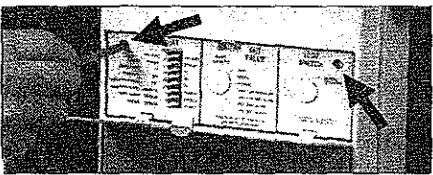

Figure 9
7. Remove the four (4) 6-32x3/8" Phillips pan-head screws as illustrated in Figures 9 and 10 (arrows indicate screw locations). Close the rear panel door.
3. Place the rear enclosure onto the front enclosure, ensuring that the plastic blank insert is held into position as illustrated in Figure 11. Install the rear enclosure by installing the four (4) 6-32x3/8" Phillips pan-head screws (see Figures 9 and 10).